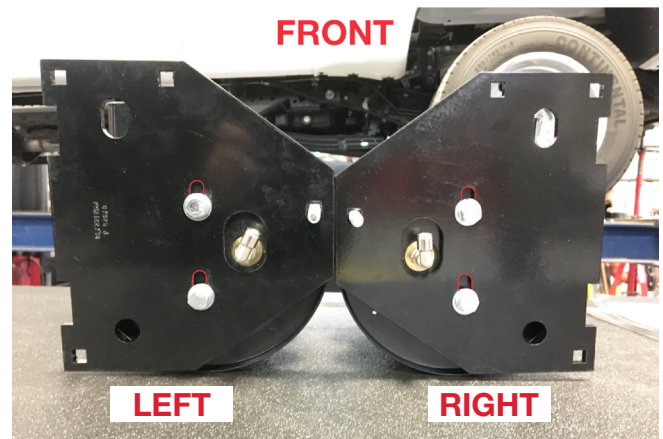

Fig. 8
2. Insert 3/8"-16 x 1 1/4" carriage bolts (N) into the square holes on the brackets, then secure the upper air spring bracket (E) onto the top of the air springs using 3/8"-24 x 7/8" hex bolts (X), 3/8" lock washers (Y) and 3/8" flat washers (S). At this stage, the air spring assemblies are left- and right-hand units. Push the brackets as far forward as possible (Fig. 8). Torque the hardware to no more than 20 lb.-ft. (27Nm).